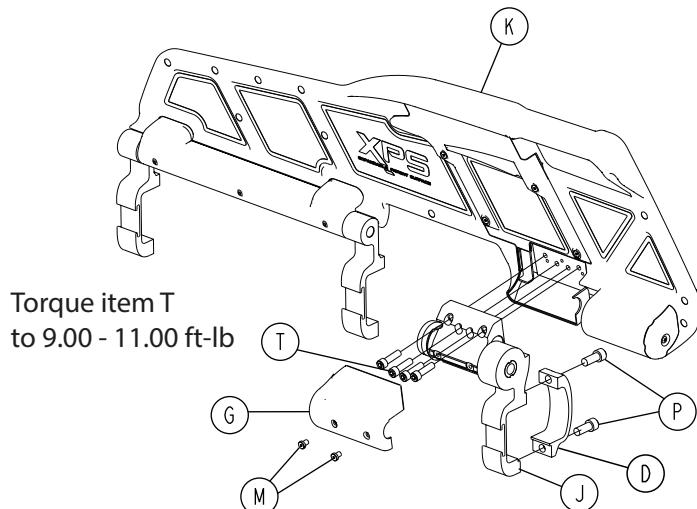

Figure 23 – Ratchet assembly components (XPS)
5. Using a 3/32" hex wrench, remove the two socket head cap screws (M) that secure the ratchet cover (G) to the ratchet assembly (J) (Figure 23). Remove and save the ratchet cover. Save the screws.
6. Using a 1/4" hex wrench, remove the socket head cap screws (P) that secure the siderail clamp (D) to the ratchet assembly at the foot end of the main assembly. Save the screws.
7. Using a 3/16" hex wrench, remove the four socket head cap screws (T) that secure the ratchet assembly to the overmold assembly (K). Remove and discard the ratchet assembly. Save the screws.